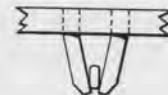

FIG. 8
5. Pins too far apart and overcoil touching bottom of pins only. (Fig. 8.)